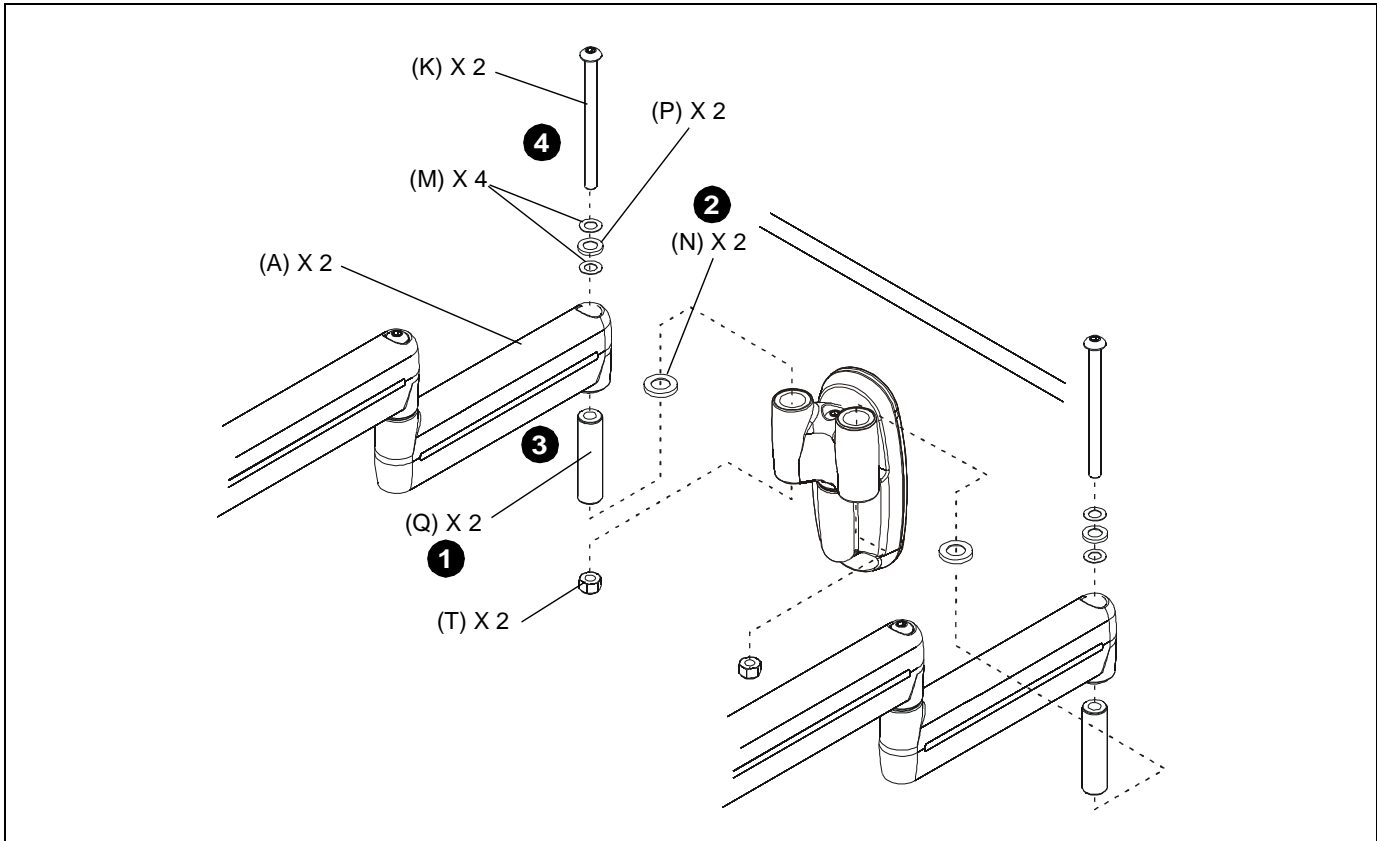

Figure 4
1. Insert pivot pin (Q) into Y-connector upper bore. (See Figure 4)
2. Install spacer (N). (See Figure 4)
3. Insert arm assembly (A) on pivot pin (Q). (See Figure 4)
4. While holding nut (T) in lower bore of Y-connector, insert 5/16-18 x 4" button head cap screw (K) through washers (M), UHMW washer (N), arm assembly (A), spacer (P) and Y-connector, into nut (T). (See Figure 4)
5. Loosely install screw (K) using 3/16" hex key (F). (See Figure 4)
6. Repeat Steps 1 through 5 for second mount arm assembly (A).